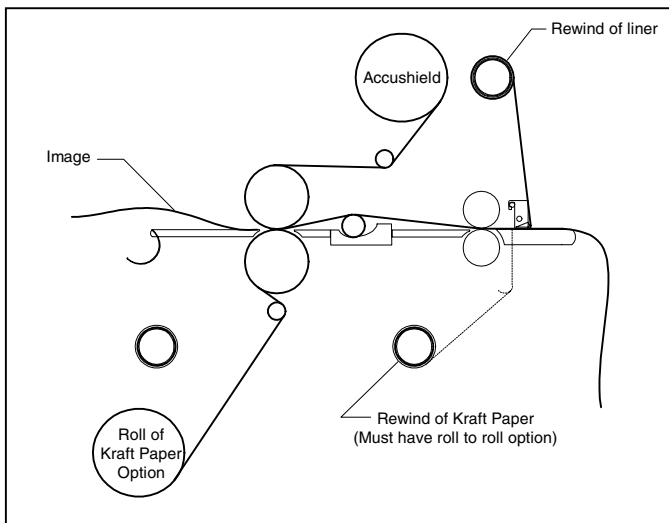

Fig. 43
TIPS FOR ACCUSHIELD (Figure 43)
1. Load the laminator as illustrated in Figure 43.